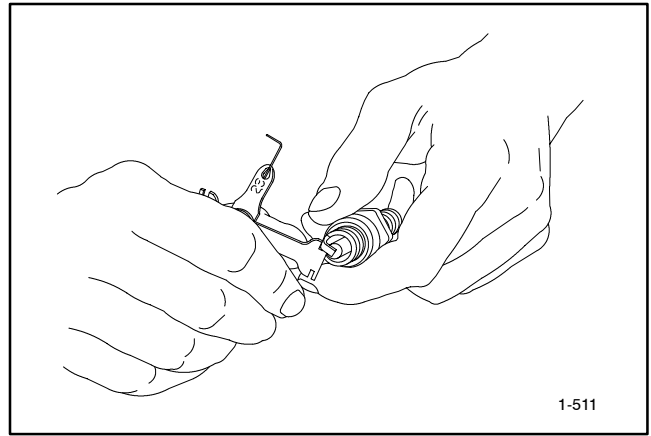

Figure 3-14 Spark Plug Gap Adjustment
7. Use a gapping tool to gently bend the side electrode closer to or farther from the center electrode to set the correct gap. See Figure 3-14. Position the side electrode directly over the center electrode.